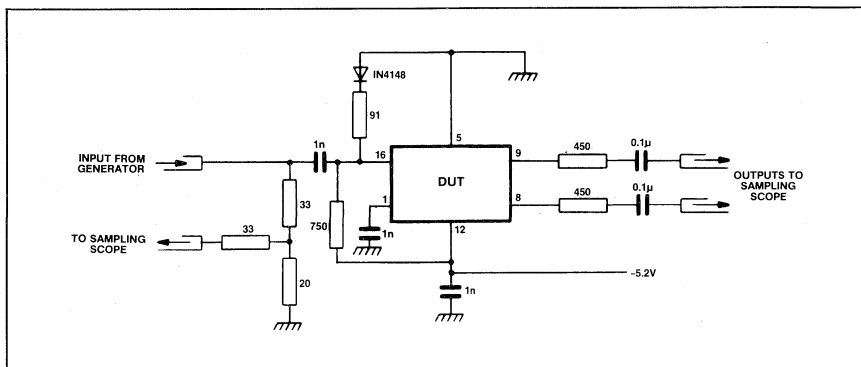

Fig.6 Test circuit
3. The test configuration for dynamic testing is shown in Fig.6.
1. The clock and control inputs are ECL III compatible. There is an internal pulldown resistor to  $V_{EE}$  of 4.3k on each input and therefore any unused input can be left open circuit when not in use but should be bypassed for RF signals with a 1nF capacitor to ensure maximum noise immunity. If it is desirable to capacitively couple the signal source to the clock input then an external bias is required as shown in Fig. 6. The external bias voltage should be  $-1.3V$  at  $25^{\circ}C$ .